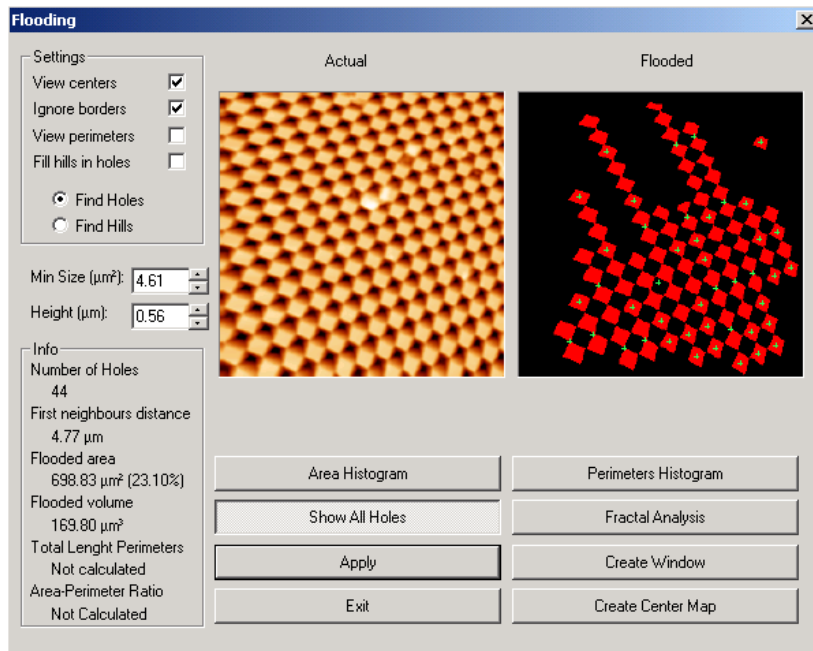

Figure 1
6. Check **View centers** and **Ignore borders**. You should get something similar to Figure 1.